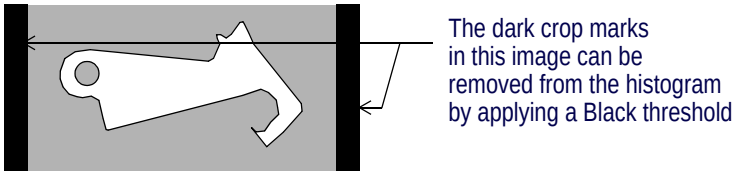

Figure 391 Applying a Threshold to Exclude Artifacts
- Another reason for using thresholds is to remove frame grabber artifacts, such as bars on the edges of an image as illustrated in Figure 391.